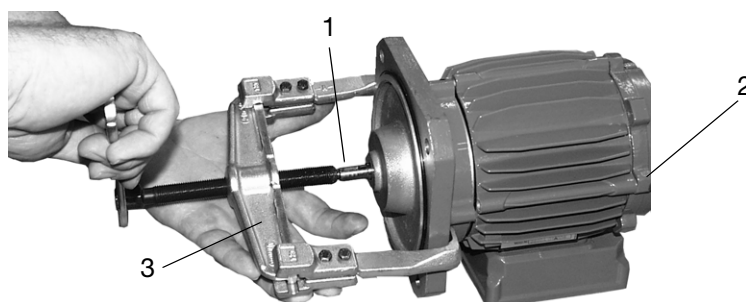

Fig. 13: Removal of the motor flange
- Firstly pull the key (1) out of the motor shaft.
- Undo motor flange screws (2).
- Use an appropriate extraction tool to pull the flange from the stator housing (see fig. 13 for details)